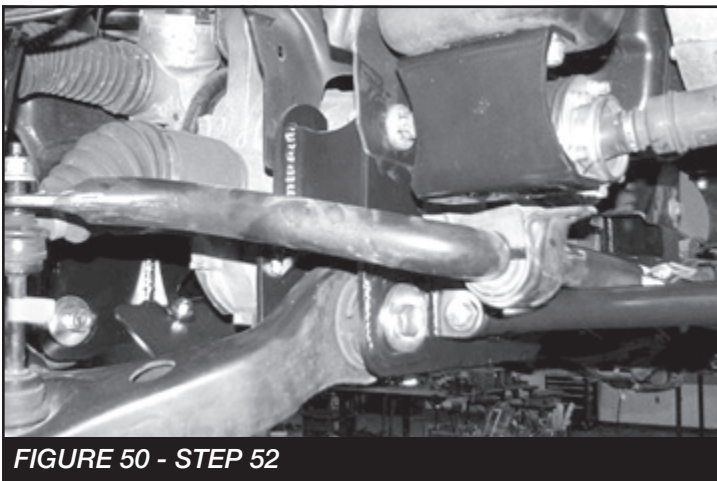

FIGURE 50 - STEP 52
52. Install the factory sway bar using the Fabtech driver and pass brackets (FT30492) (FT30493). Install the factory sway bar link in to the end of the sway bar and lower control arm mounting. Torque Brackets and links to 52 ft.-lbs. **SEE FIGURE 50**